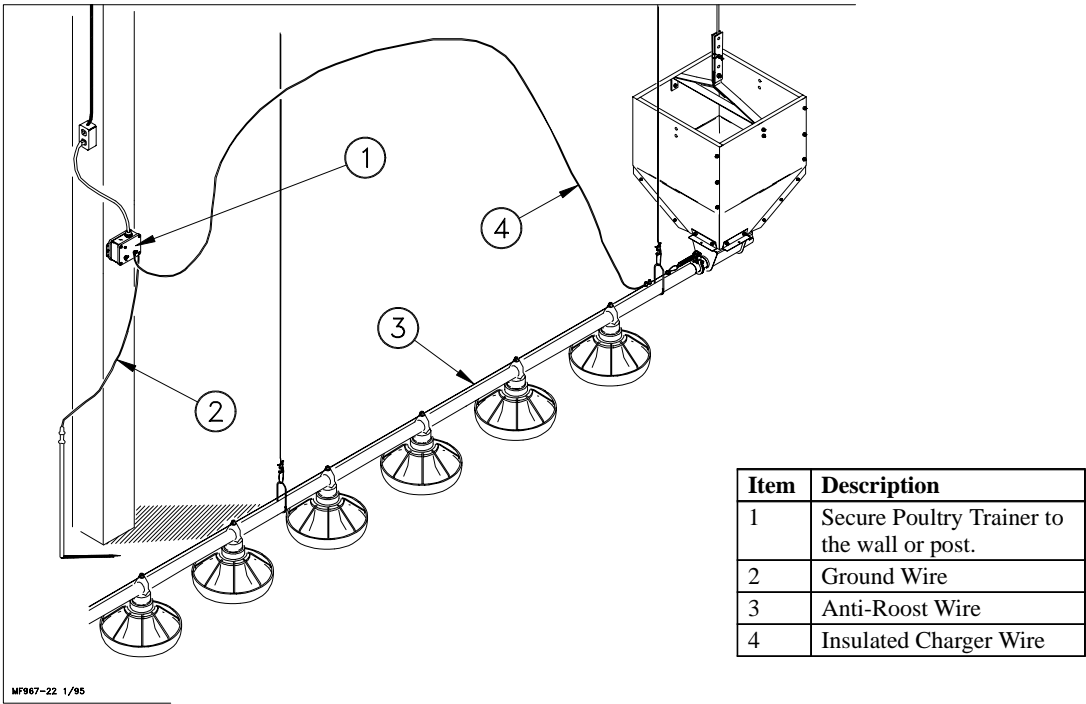

Figure 50. Poultry Trainer Installation
11. Install the Poultry Trainer or Line Charger, as shown in Figure 50 or 51.
The Poultry Trainer is used to power all Anti-Roost lines in a house. See Figure 50.